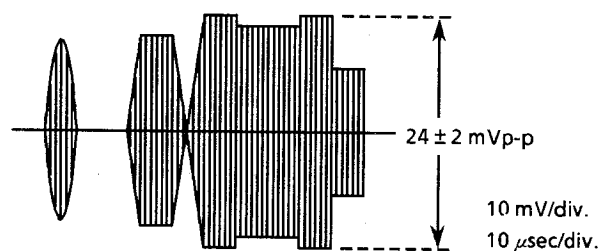

Figure 1-10.
- c) Adjust R504 (recording chroma level control) so that the red level be 24 ± 2 mVp-p as shown in **Figure 1-10**.